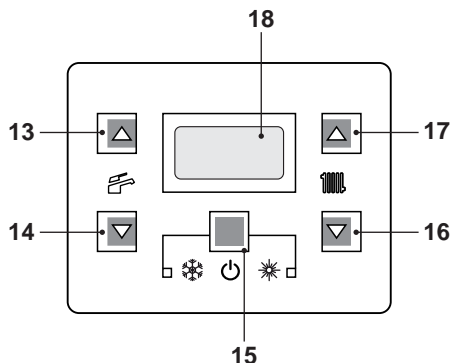

Fig. 2.7
- Press the key 15 for 2 seconds until the  symbol appears on the display Fig. 2.7.
The output temperature of c.h. water can be adjusted by acting on keys 16 (reduce) and 17 (increase) (Fig. 2.7) from a minimum of about 25°C to a maximum of about 85°C. Press one of the two keys once to display the "set" value. Press again to access the modification.
However, if the ambient temperature is not comfortable, the flow temperature of the heating plant can be increased or reduced by  $\pm 15^{\circ}\text{C}$  by acting on keys 16 (reduce) and 17 (increase) (Fig. 2.7).
The temperature of the d.h.w. can be adjusted by acting on keys 13 (increase) and 14 (reduce) (Fig. 2.7) from a minimum of about  $35^{\circ}\text{C}$  to a maximum of about  $60^{\circ}\text{C}$ . Press one of the two keys once to display the "set" value. Press again to access the modification.